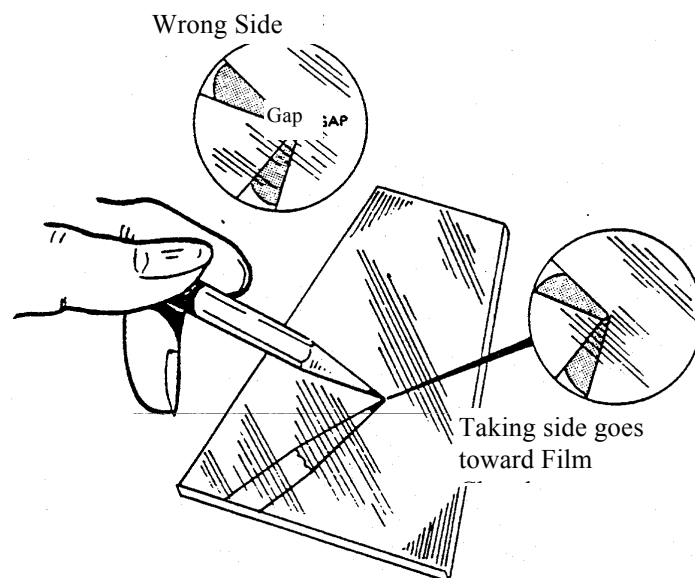

Figure 4-29a Determining Mirror Taking Side
- i. Install the new Mirror onto the Cone, orienting it properly. (Refer to Figure 4-29a)